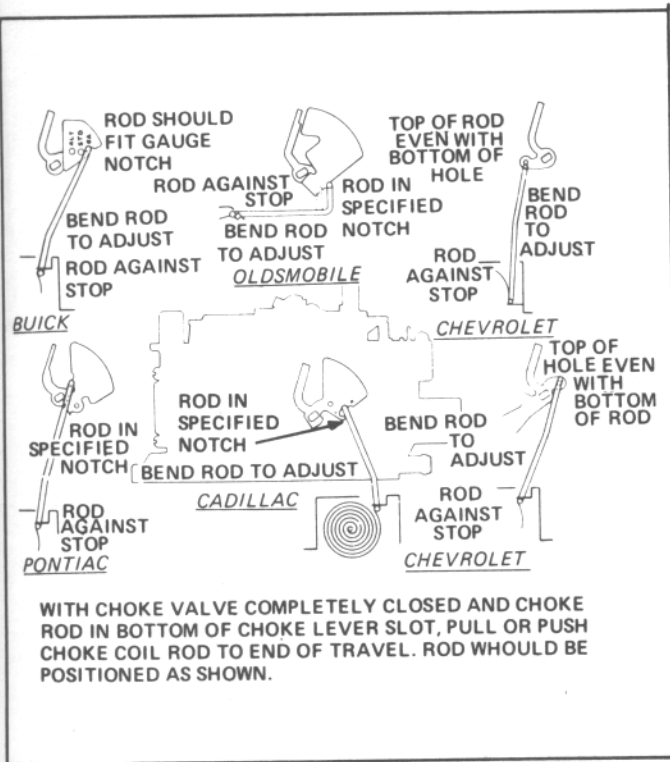

Fig. 51. Choke Coil Rod Adjustment
5. Bend rod as shown to adjust (See Fig. 51).